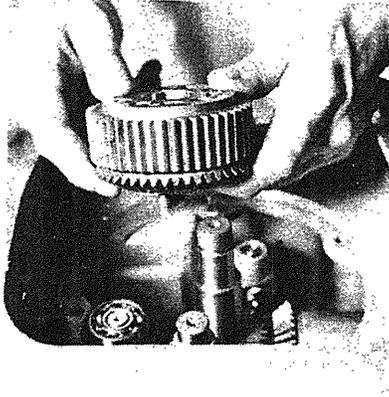

Fig. 3-12
- K. Remove bevel gear and roller clutch assembly as a unit (Fig. 3-12).